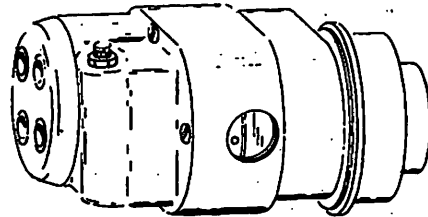

Figure 6-8. Magneto Timing Hole
- c. Remove the plug from the bottom of the magneto. (See Figure 6-8).